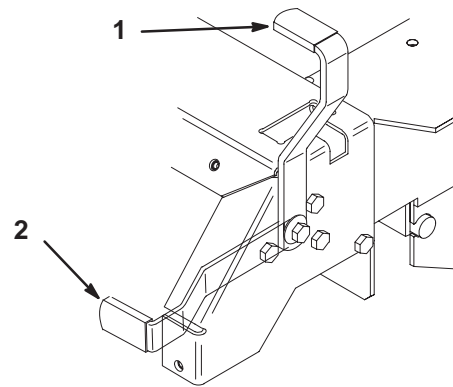

Figure 12
2. Pull back and up on the parking brake lever to set the parking brake (Fig. 12). The parking brake lever should stay firmly in the engaged position.
1. Push forward and down on the parking brake lever to release the parking brake (Fig. 12). The parking brake is disengaged and the lever rests against the brake stop.